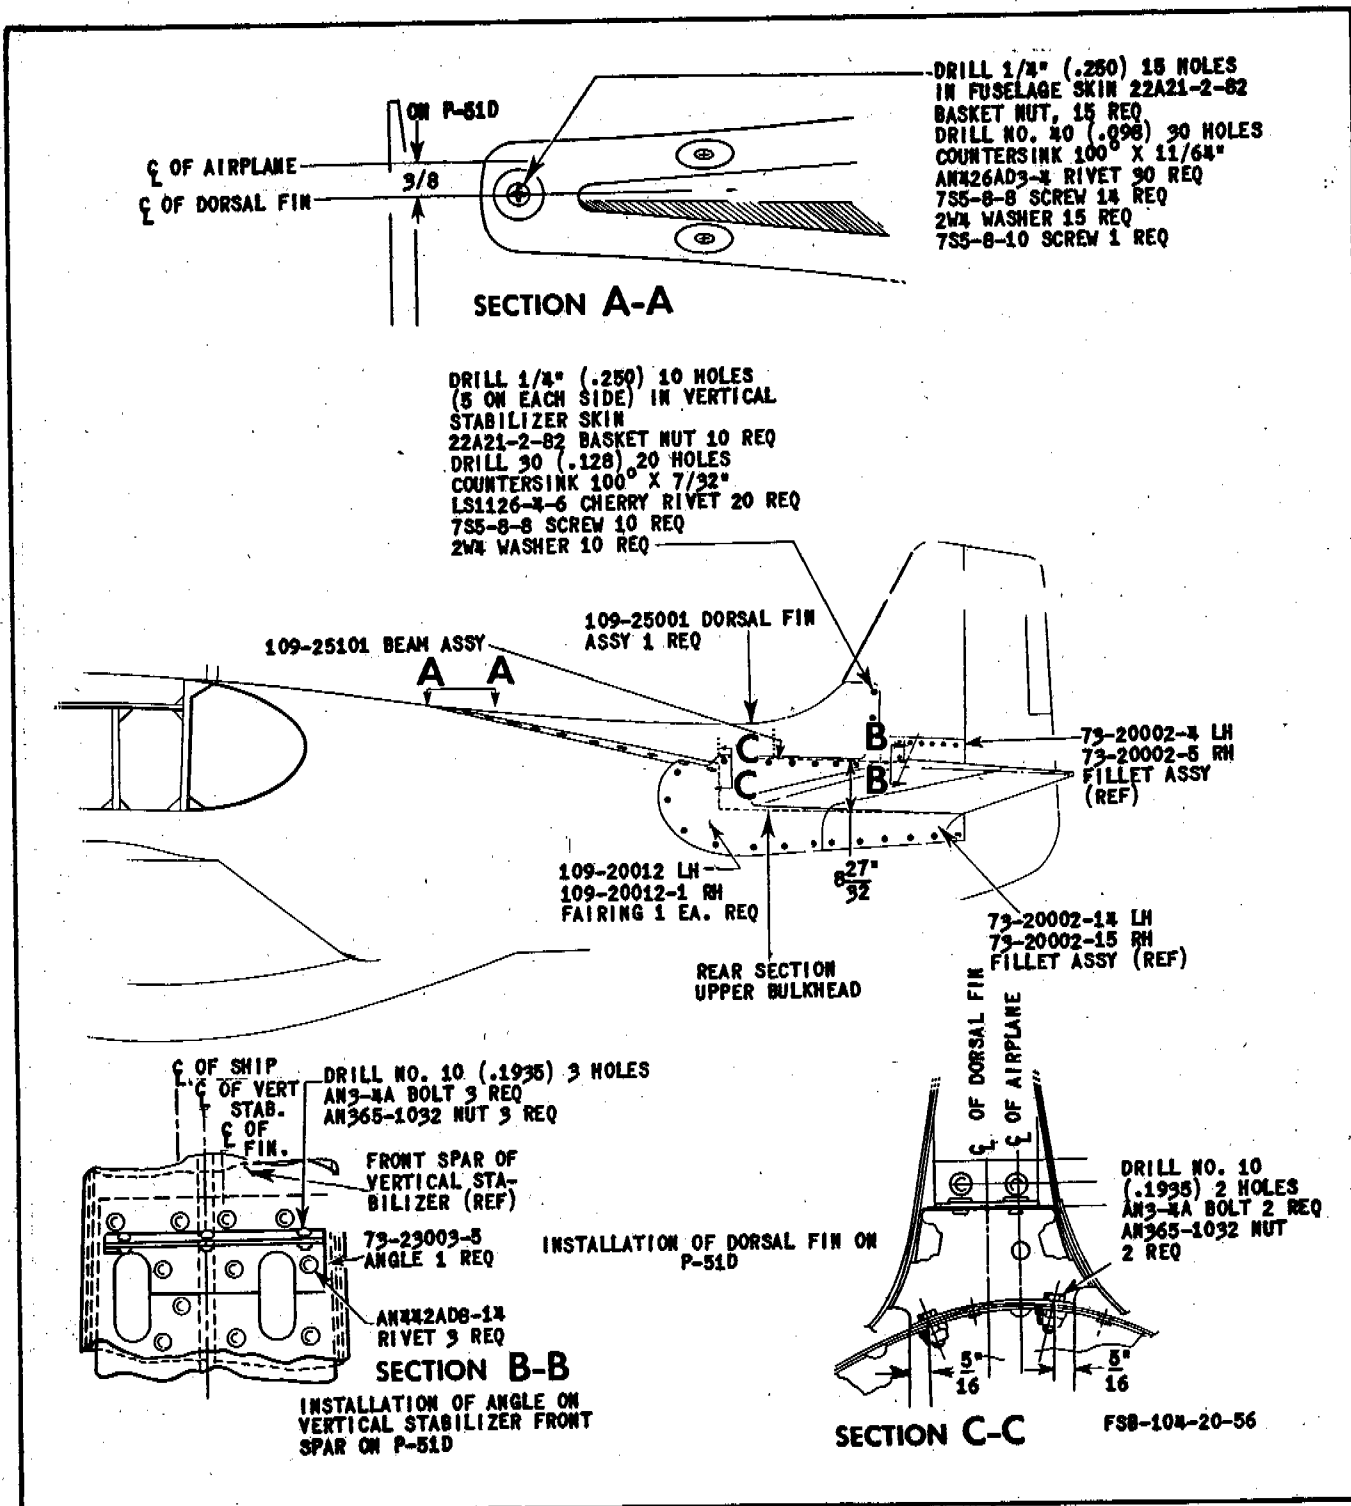

Figure 1 - Installation of Dorsal Fin on P-51D
(1) Remove the vertical stabilizer nose fillet, the horizontal stabilizer nose fillets, and the rear fillets.
(2) Using a 1/4 (.250-inch) drill, remove the second row of three rivets, part No. AN442AD8, at the lower end of the front spar of the vertical stabilizer. (See detail B-B, figure 1.)
(3) Locate the attaching angle, part No. 73-23003-5, on the vertical stabilizer front spar, as shown in detail B-B, so that the beam assembly, part No. 109-25101, of the dorsal fin, when attached will be 8-27/32 inches above the rear section upper bulkhead. (See figure 1.)
(4) Using a C clamp secure the angle to the spar and drill three 1/4 (.250-inch) holes in the angle from the aft side of the spar through the holes from which the three rivets were removed.
(5) Remove the angle, part No. 73-23003-5, from the vertical stabilizer front spar.
(6) Bur the holes just drilled in the angle.
(7) Attach the angle to the vertical stabilizer front spar with three rivets, part No. AN442AD8-14.
(8) Place the dorsal fin assembly on the airplane.
(9) Mark the aft end of the beam, part No. 109-25101, of the dorsal fin through the three holes in the angle, part No. 73-23005-5.
(10) Remove the dorsal fin from the airplane and drill three No. 10 (.1935-inch) holes in the beam where marked.
(11) Reinstall the dorsal fin on the airplane and insert the three bolts, part No. AN3-4A, through the holes just drilled in the beam and the holes in the angle.
(12) At the forward end of the dorsal fin draw a line 3/8 of an inch to the left and parallel to the center line of the airplane. (See detail A-A, figure 1.)
(13) Using a 3/8-inch duplicating punch, mark a point on the line as described in preceding paragraph through the 3/8-inch attaching hole in the forward end of the dorsal fin.
(14) Drill a pilot hole at the point marked, with a No. 30 (.1285-inch) drill, through the skin and frame.
(15) Remove the dorsal fin from the airplane.
(16) Enlarge the No. 30 (.1285-inch) hole just drilled with a 1/4 (.250-inch) drill.
(17) Attach basket nut, part No. 22A21-2-82, on the outside of the fuselage skin over the 1/4 (.250-inch) hole just drilled with a screw, part No. 7S5-8-10, to center the basket nut over the hole.
(18) Using the attaching holes in the basket nut as a template, drill two No. 30 (.1285-inch) holes through the fuselage skin and frame.
(19) Remove the basket nut.
(20) Countersink the two No. 30 (.1285-inch) holes just drilled 100 degrees x 7/32-inch diameter.
(21) Attach the basket nut to the inside of the fuselage using two rivets, part No. AN426AD4-7.
(33) Attach the basket nuts to the inside of the fuselage skin using 20 rivets, part No. AN426AD3-4.
(34) Enlarge the rivet attaching holes in 10 new basket nuts, part No. 22A21-2-82, with a No. 30 (.1285-inch) drill.
(35) Enlarge the 10 pilot holes drilled in the vertical stabilizer skin with a 1/4 (.250-inch) drill.
(36) Center the basket nuts just reworked over the ten 1/4 (.250-inch) holes drilled in the vertical stabilizer skin and drill No. 30 (.1285-inch) holes in the skin through the enlarged holes in the basket nuts.
(37) Countersink the 20 No. 30 (.1285-inch) holes just drilled 100 degrees x 7/32-inch diameter.
(38) Install the 10 basket nuts, part No. 22A21-2-82, on the inside of the vertical stabilizer skin, using 20 cherry rivets, part No. LS1126-4-6.
(39) Reinstall the dorsal fin on the airplane and secure at the lower aft end with three bolts, part No. AN3-4A, and three nuts, part No. AN365-1032 to the angle previously installed on the front spar of the vertical stabilizer.
(40) Fasten the upper aft end of the dorsal fin to the vertical stabilizer with 10 screws, part No. 7S5-8-8, and 10 washers, part No. 2W4.
(41) Fasten the forward end of the dorsal fin to the fuselage with one screw, part No. 7S5-8-10, and one washer, part No. 2W4.